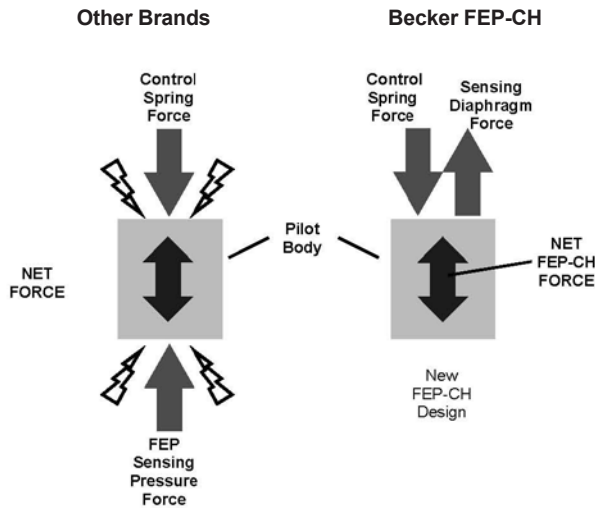

Figure 1. Schematic for the net force
2. The Sensing Pressure and the Control Spring forces in the FEP-CH are combined in the same “CH” combined chamber so that only the “small net force” is transmitted to the FEP-CH Pilot Body. In all other brands, the forces have a “sandwich” effect over the pilot body and the resulting force is “crushing” pilots. This feature contributes for a much higher sensitivity and smaller Lock-Up. See figure 1 below.